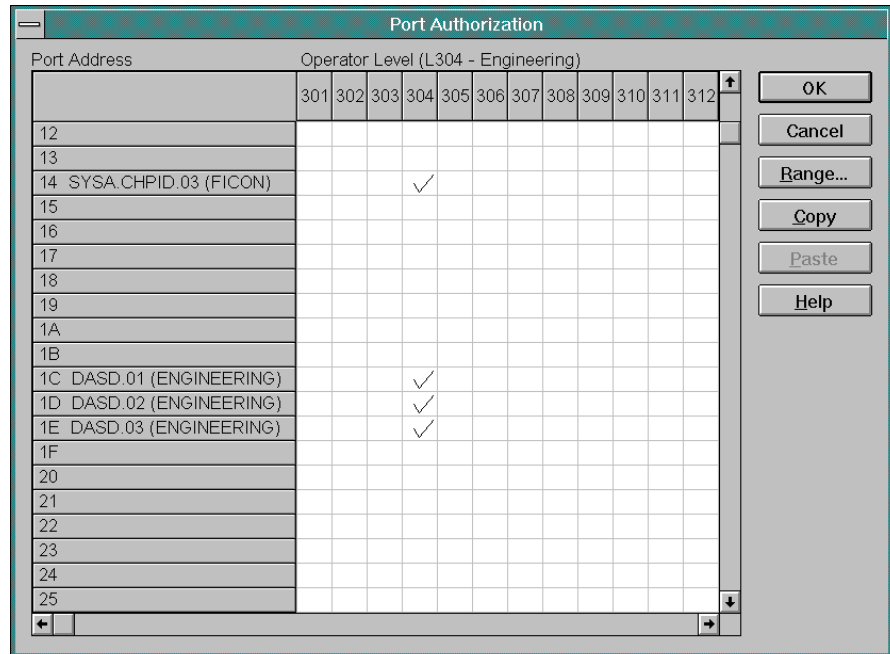

Figure 10-11. Port Authorization Dialog Box (LPAR Example)
- c. Click the *Authorize* button. The *Port Authorization* dialog box reappears as shown in Figure 10-11.